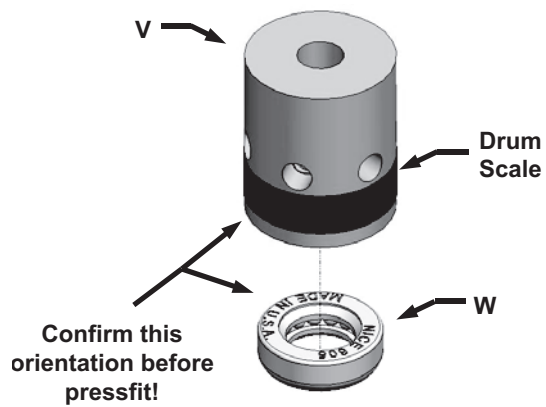

Figure 10
(Figures 10 & 11)
Step 27: Press fit the Thrust Bearing (W) into the Adjusting Drum (V). Make sure that the stamp-lettered surface of the Thrust Bearing (W) is fit with the bottom Drum (V) surface as shown in Figure 10.